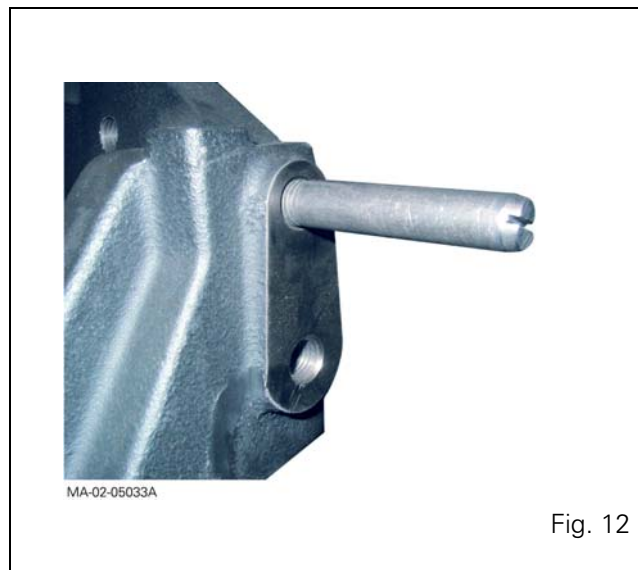

Fig. 12
- 26.** Screw a guide stud onto each rear face of the frame (Fig. 12).